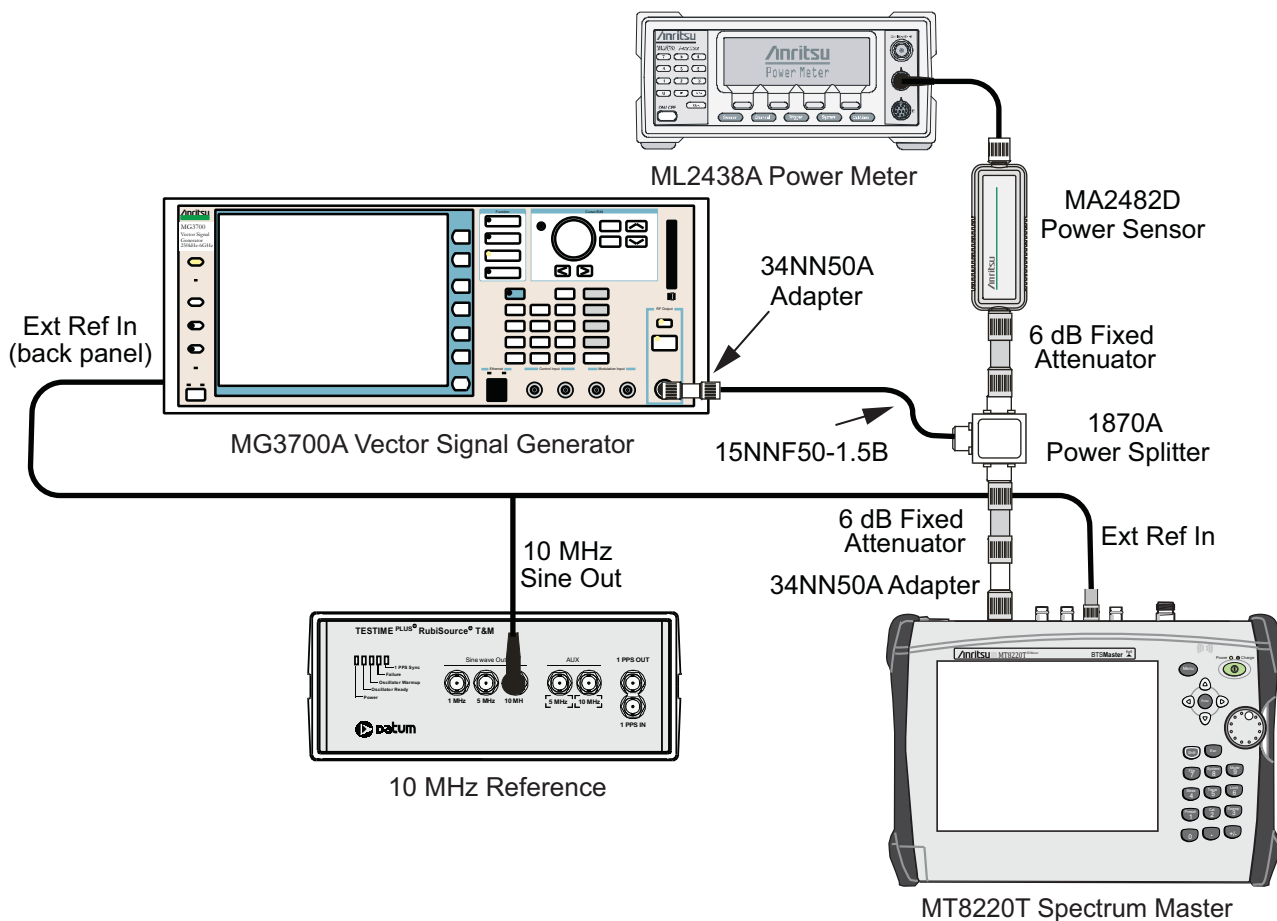

Figure 6-7. TD-LTE Signal Analyzer Verification
4. Connect the Power Sensor, 1870A splitter, 6 dB attenuators (quantity 2), as shown in Figure 6-7.